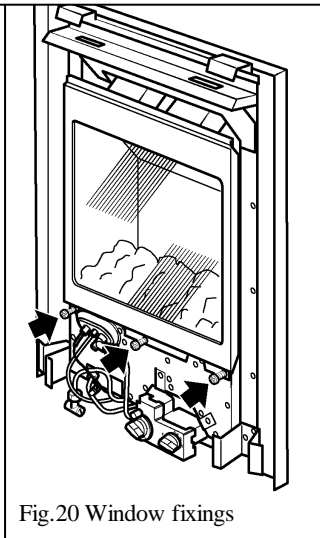

Fig.20 Window fixings
- Unscrew and remove the three spring-loaded window-fixing screws and washers from the base of the window frame. See figure 20.